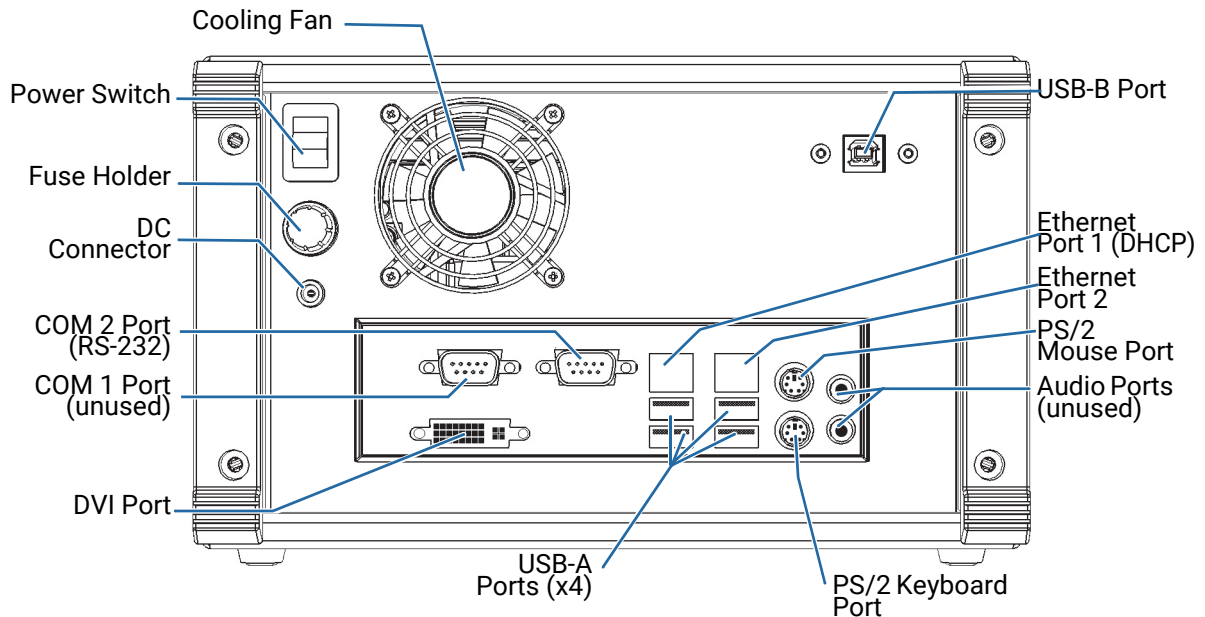

Figure 2: Rear Panel
5. On the rear panel (see Figure 2, p. 13), make sure the power switch is set to **O**.
2. On the rear panel (see *Figure 2*, p. 13), make sure the power switch is set to **O**.
- Remove the protective cap from the **IN** and **OUT** connectors and connect the appropriate jumper corresponding to the connector type mounted on your product, as indicated next to the connectors (see *Figure 2*, p. 13).